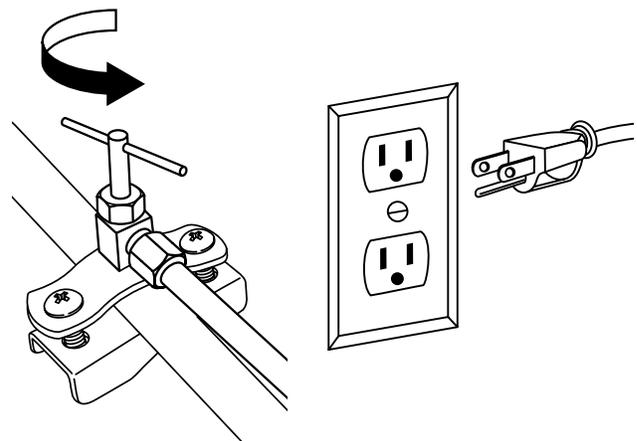

Figure 16
4. Insert the electrical plug for the combined refrigerator/freezer into the electrical outlet (**Figure 16**).